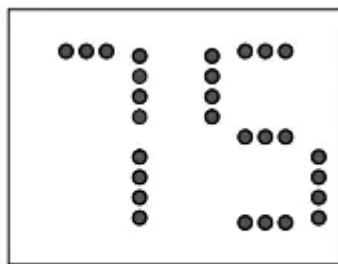

Fig. 2
2. Screw the hose inlet (Fig.2).
After change. in cool mode. the screen display like Fig.2